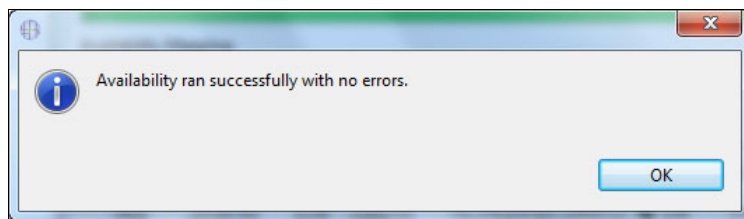

Figure 6-90 CMT - Availability ran successfully with no errors message
6. After the CHPID Mapping Tool resets the CHPIDs, it displays the result of the process (Figure 6-90 on page 318). Click **OK**.